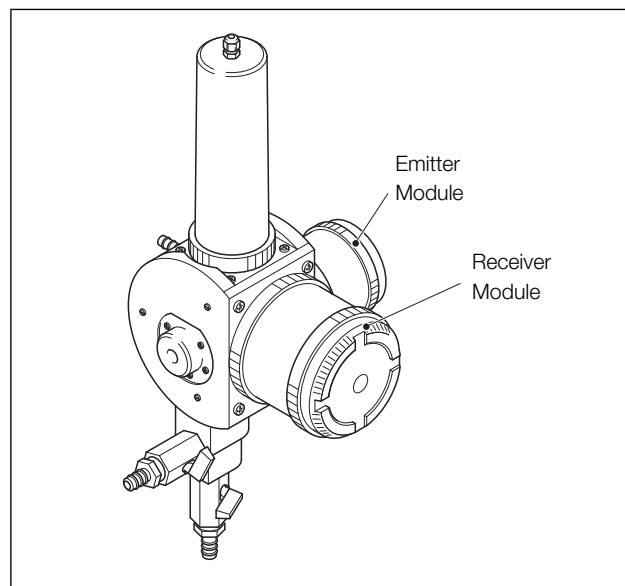

Fig. 4.1 Module identification
1. Referring to Fig. 4.1, identify the module to be replaced.